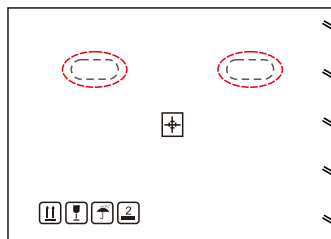

Figure 3.4 Handles used to move the inverter shown circled in red
1. The red circles below denote cutouts on the product package. Push in the cutouts to form handles for moving the inverter around 249lb (see Figure 3.4).